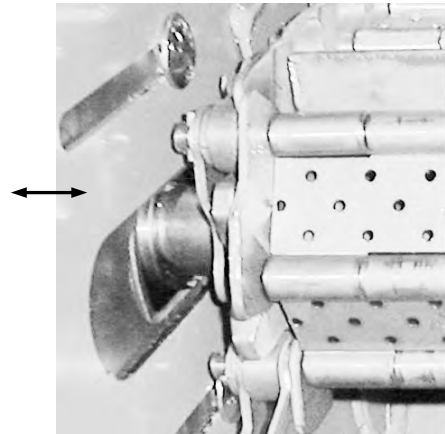

Figure 9: Headshaft Centering Measurement
- a. Measure the distance between the headshaft sprocket face (or chain face) and the inside of the sidewall on both ends of the shaft to verify that the drag chain or metal belt is centered in the discharge section (Figure 9). If not, proceed as follows:
- Measure the distance between the chain face (or sprocket face) and the inside of the sidewall (Figure 9). Be sure that the sprockets are centered (distance is equal for both sides).
- Adjust the headshaft so that the chain is equidistant between the chain and the inside of the side plate on each side (Figure 9).